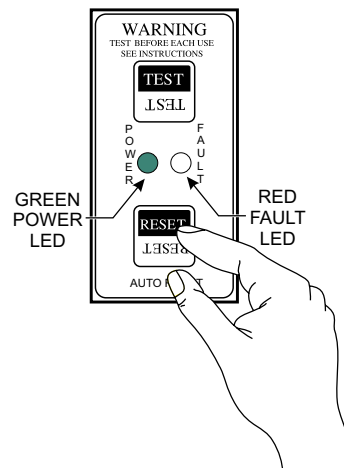

Figure 89. GFCI Sensing Module (Green LED ON Reset)
- To restore power, press the **RESET** button (Figure 89) on the GFCI module and verify that the **RED** fault LED turns **OFF** and the **GREEN** power LED turns **ON**.